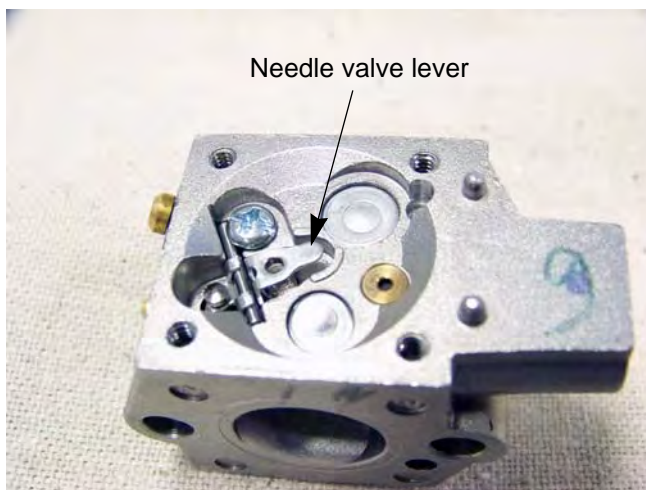

Figure 5.27
8. Set the needle valve lever as per the carburetor manufacturer's recommendations using a W-tool. See Figure 5.27.